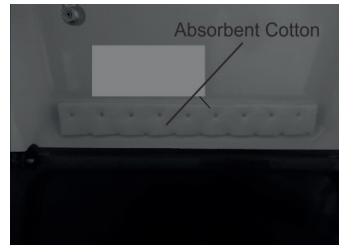

Figure 14
1. Replacement of oil mist filter cotton and oil-absorbing cotton. (As fig 14 shows)